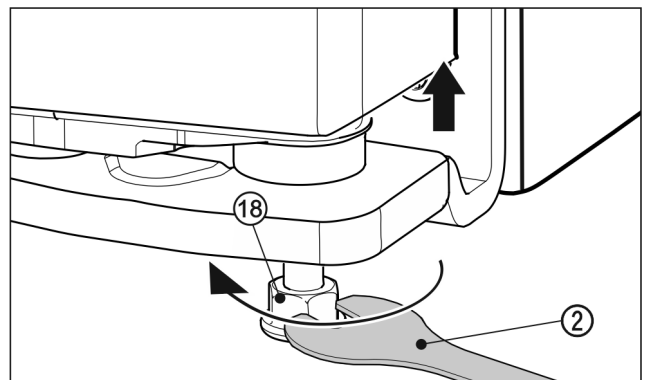

Fig. 29
- ▶ To lift the door, unscrew the adjusting foot Fig. 29 (18) clockwise using the supplied open-ended spanner Fig. 29 (2) until the foot makes contact with the floor. Then continue turning until the door is adjusted to the right height. When delivered, the bearing pin is completely screwed in.